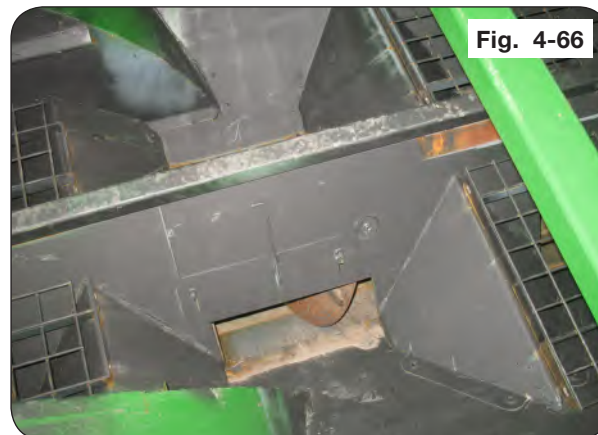

Fig. 4-66
2. Remove the flange screws in both middle grates inside the cart. Remove the grates. (Fig. 4-66)